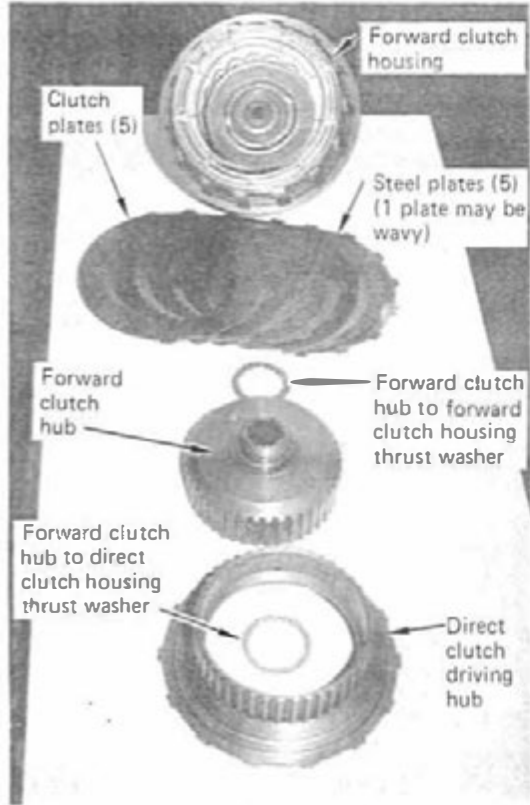

FIGURE 20
STEP 1. Remove the snap ring from the rear of the forward clutch housing. (See Fig. 20) Remove the direct clutch driving hub, forward clutch hub, thrust washer and five clutch plates and steel plates.
gear. Remove the rear internal ring gear from the output carrier. (See Fig. 20) There is another bearing assembly on the front of the rear internal gear. It is not necessary to take the rear internal gear off the main shaft. Put the bearing assemblies in the oil pan.
III. Forward Clutch (Refer to Figure 20)